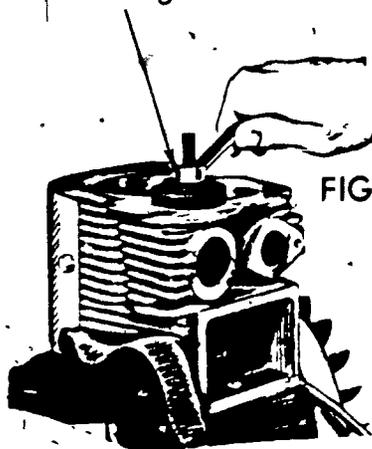

FIGURE 11
- a. Remove worn seat (Figures 11 and 12)